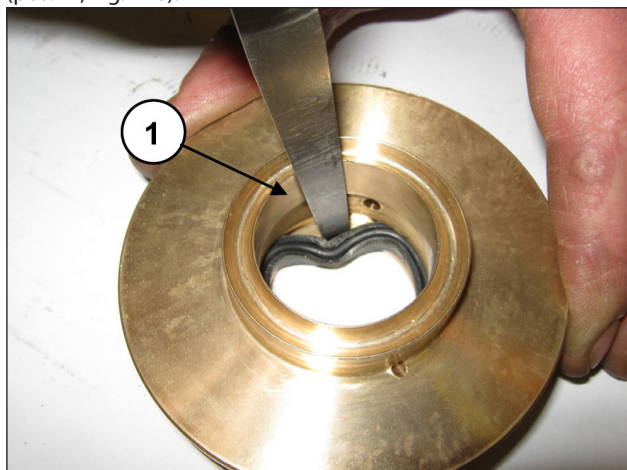

Fig. 176
To remove the low pressure seal, use a thickness gauge or another tool which will not damage the seal support housing (pos. ①, Fig. 176).